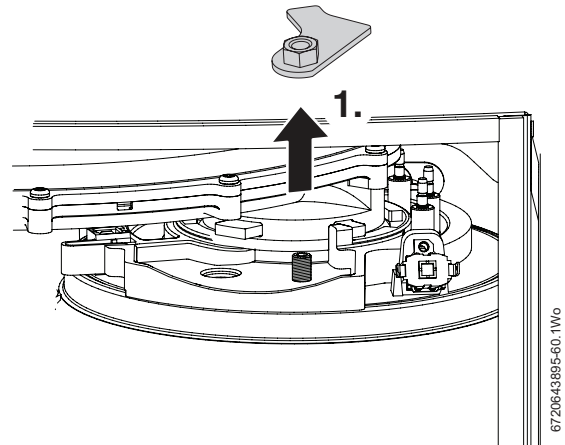

Fig. 65 Securing nut
1. Refer to figure 65 and undo the securing nut on the top of the heat exchanger and remove the retaining plate assembly.